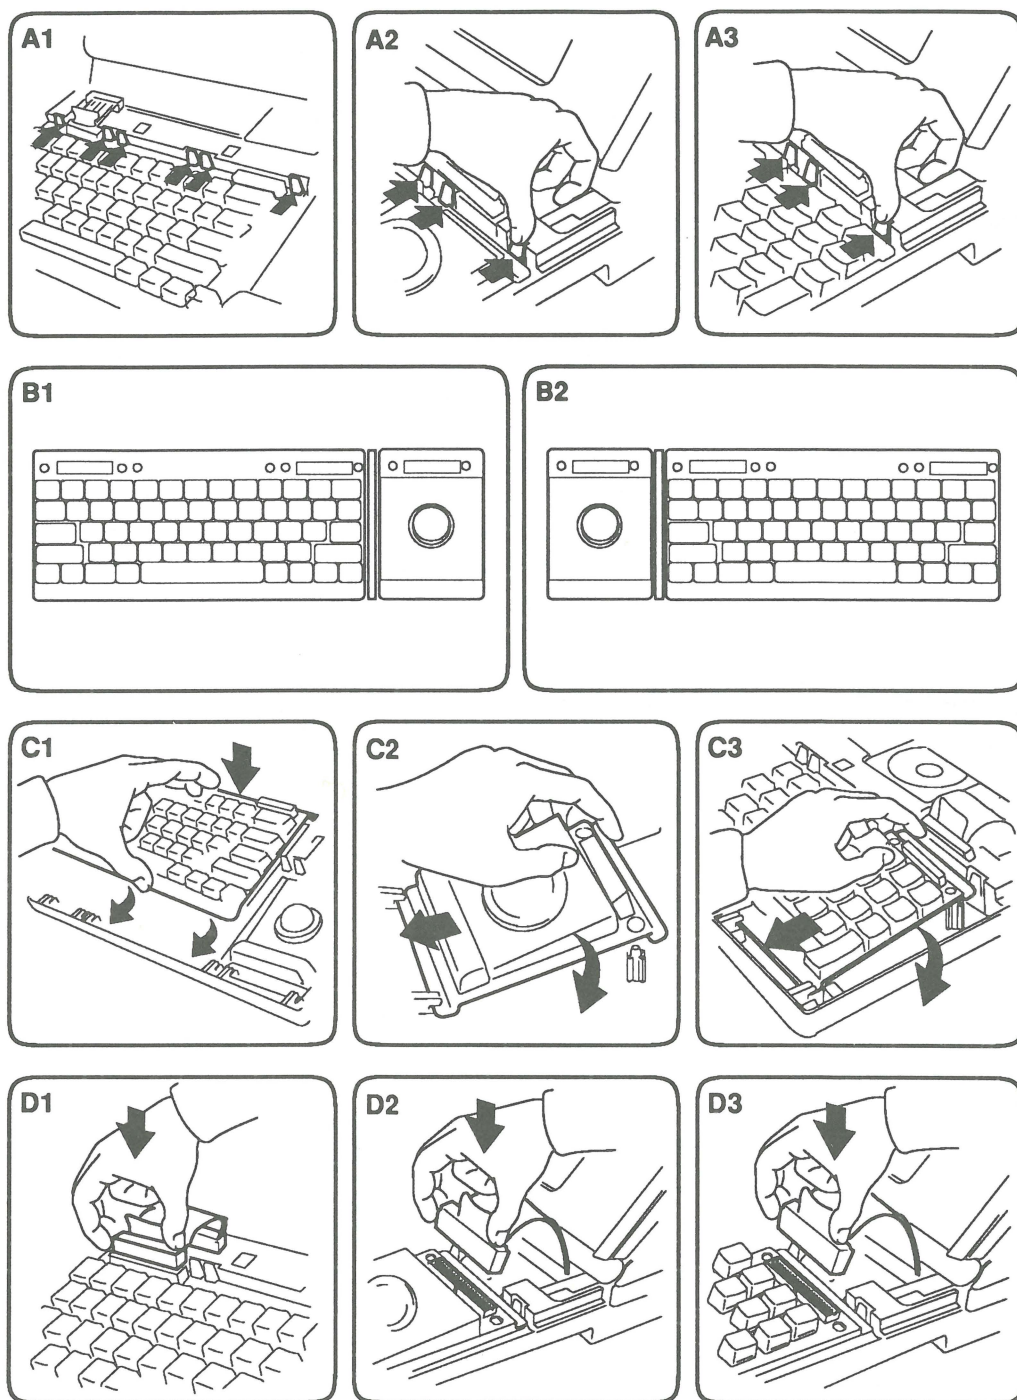

FIGURE 11
4. **Figures 11-A1, 11-A2, and 11-A3.** Starting at one side of the input device to be removed, simultaneously press back on each plastic tab securing the device to the case and lift the device. When all the tabs are released, remove the device from the computer.
- a) **Figure 11-B1.** The **keyboard spacer** is on the **right** when the **keyboard** is on the **left**.
- b) **Figure 11-B2.** The **keyboard spacer** is on the **left** when the **keyboard** is on the **right**.
7. **Figures 11-C1, 11-C2, and 11-C3.** Place the front of the device in the guides at the front of the computer. Press down the rear of the device until it snaps in place.
8. **Figures 11-D1, 11-D2, and 11-D3.** Connect the flat cable to the device.